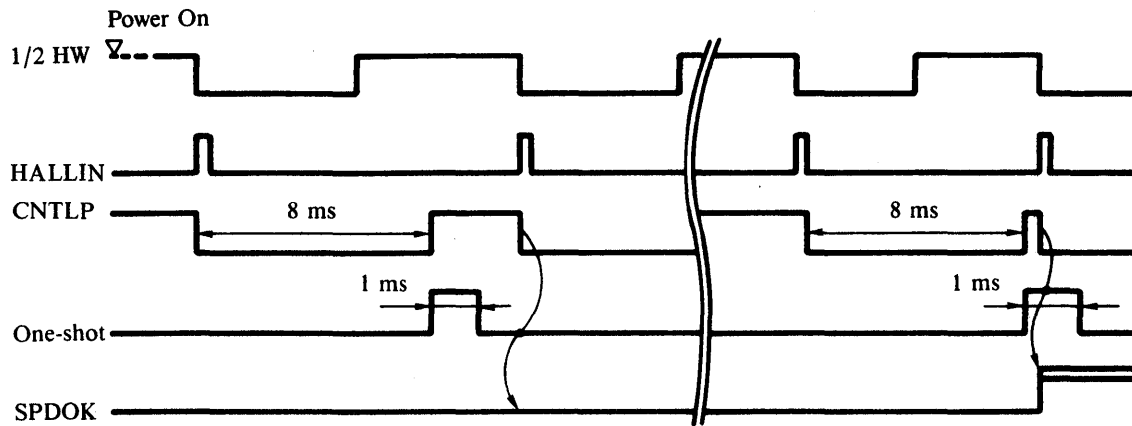

Figure 3.30 SPDOK signal timing chart
The HALL IN signal, given by the differential calculating the trailing edge of the output signal (HW) from the hole sensor, generates the CNTLP signal with the basic time (8 ms) in LSI (MB60VH523). The SPDOK signal is set when one-shot (approximately 1 ms) is triggered at the leading edge of the CNTLP signal and the trailing edge of the CNTLP signal and the trailing edge of the CNTLP signal appears within the one-shot. The SPDOK signal is set at the point approximately 92% of the standard rotational speed. After 5 seconds, the initial seek (RTZ) is executed. Figure 3.30 is the timing chart.